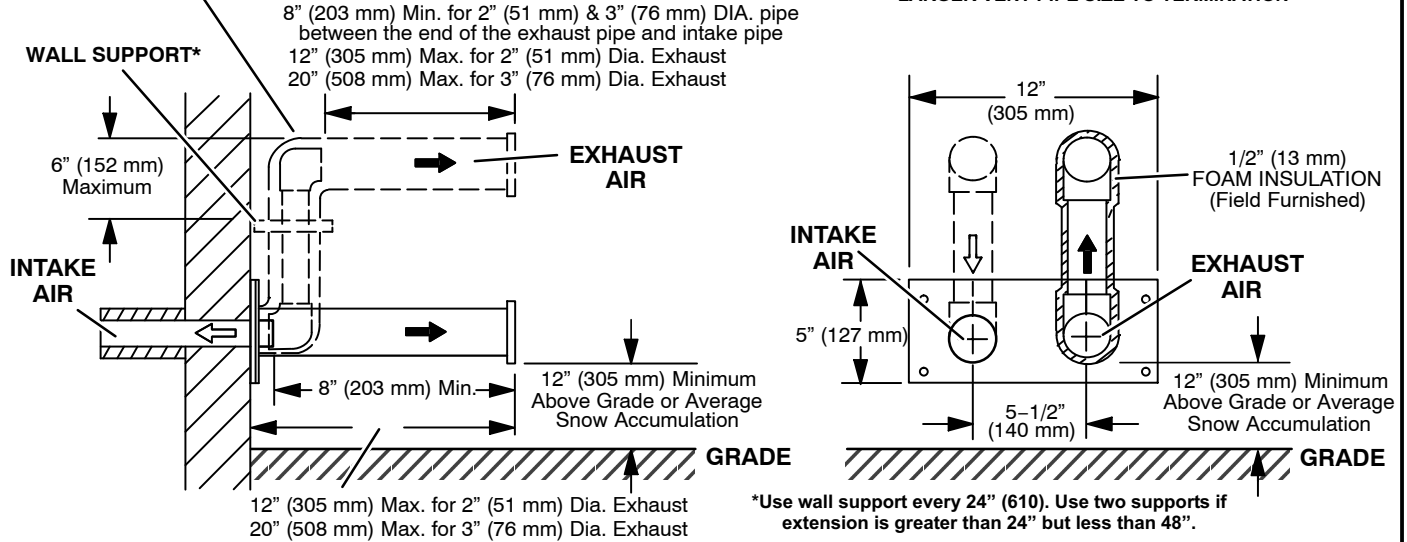

FIGURE 34
- 7 - If intake and exhaust piping must be run up a side wall to position above snow accumulation or other obstructions, piping must be supported every 24" (610mm) as shown in figures 27 and 28. In addition, close coupled wall termination kits must be extended for use in this application. See figures 34 and 35. When exhaust and intake piping must be run up an outside wall, the exhaust piping must be terminated with pipe sized per table 8. The intake piping may be equipped with a 90° elbow turndown. Using turndown will add 5 feet (1.5m) to the equivalent length of the pipe.